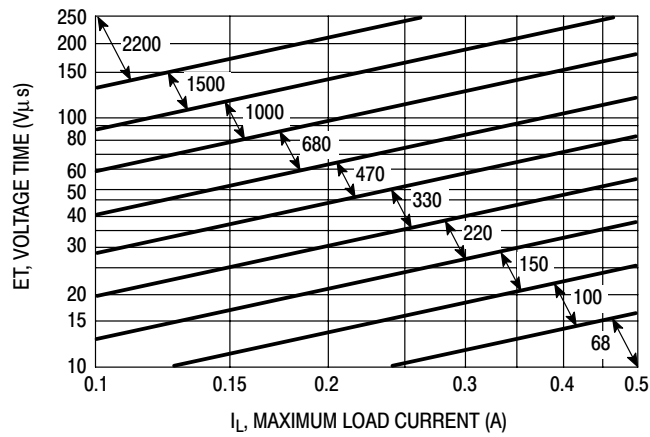

Figure 23. LM2574-ADJ
4. Inductor Selection (L₁) A. Use the following formula to calculate the inductor Volt x microsecond [V x μs] constant: $E \times T = (V_{in} - V_{out}) \frac{V_{out}}{V_{in}} \times \frac{10^6}{F[Hz]} [V \times \mu s]$ B. Match the calculated E x T value with the corresponding number on the vertical axis of the Inductor Value Selection Guide shown in Figure 23. This E x T constant is a measure of the energy handling capability of an inductor and is dependent upon the type of core, the core area, the number of turns, and the duty cycle. C. Next step is to identify the inductance region intersected by the E x T value and the maximum load current value on the horizontal axis shown in Figure 27. D. From the inductor code, identify the inductor value. Then select an appropriate inductor from Table 2. The inductor chosen must be rated for a switching frequency of 52 kHz and for a current rating of 1.15 x I_{Load}. The inductor current rating can also be determined by calculating the inductor peak current: $I_{p(max)} = I_{Load(max)} + \frac{(V_{in} - V_{out})t_{on}}{2L}$ where t_{on} is the "on" time of the power switch and $t_{on} = \frac{V_{out}}{V_{in}} \times \frac{1.0}{f_{osc}}$ For additional information about the inductor, see the inductor section in the "External Components" section of this data sheet.	4. Inductor Selection (L₁) A. Calculate E x T [V x μs] constant : $E \times T = (40 - 24) \times \frac{24}{40} \times \frac{1000}{52} = 105 [V \times \mu s]$ B. E x T = 185 [V x μs] C. I_{Load(max)} = 0.4 A Inductance Region = 1000 D. Proper inductor value = 1000 μH Choose the inductor from Table 2.